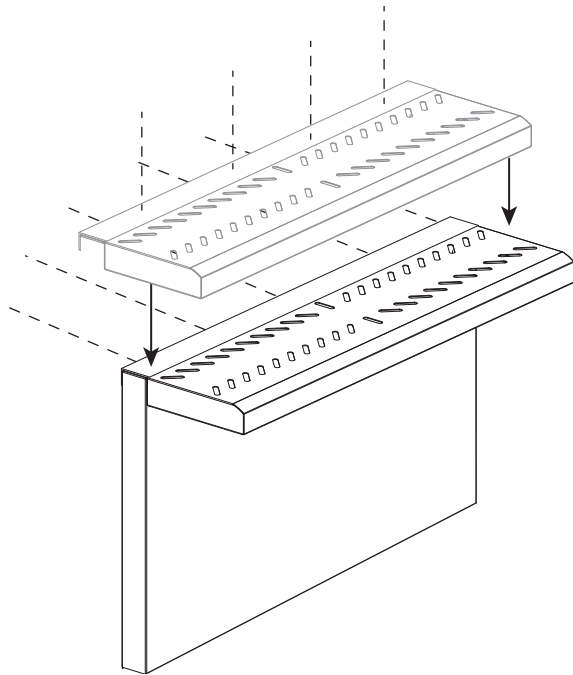

Figure 26: High Shelf Assembly
3. Install the included stainless screws along the top side of shelf and into the back of the shelf (Figure 26).